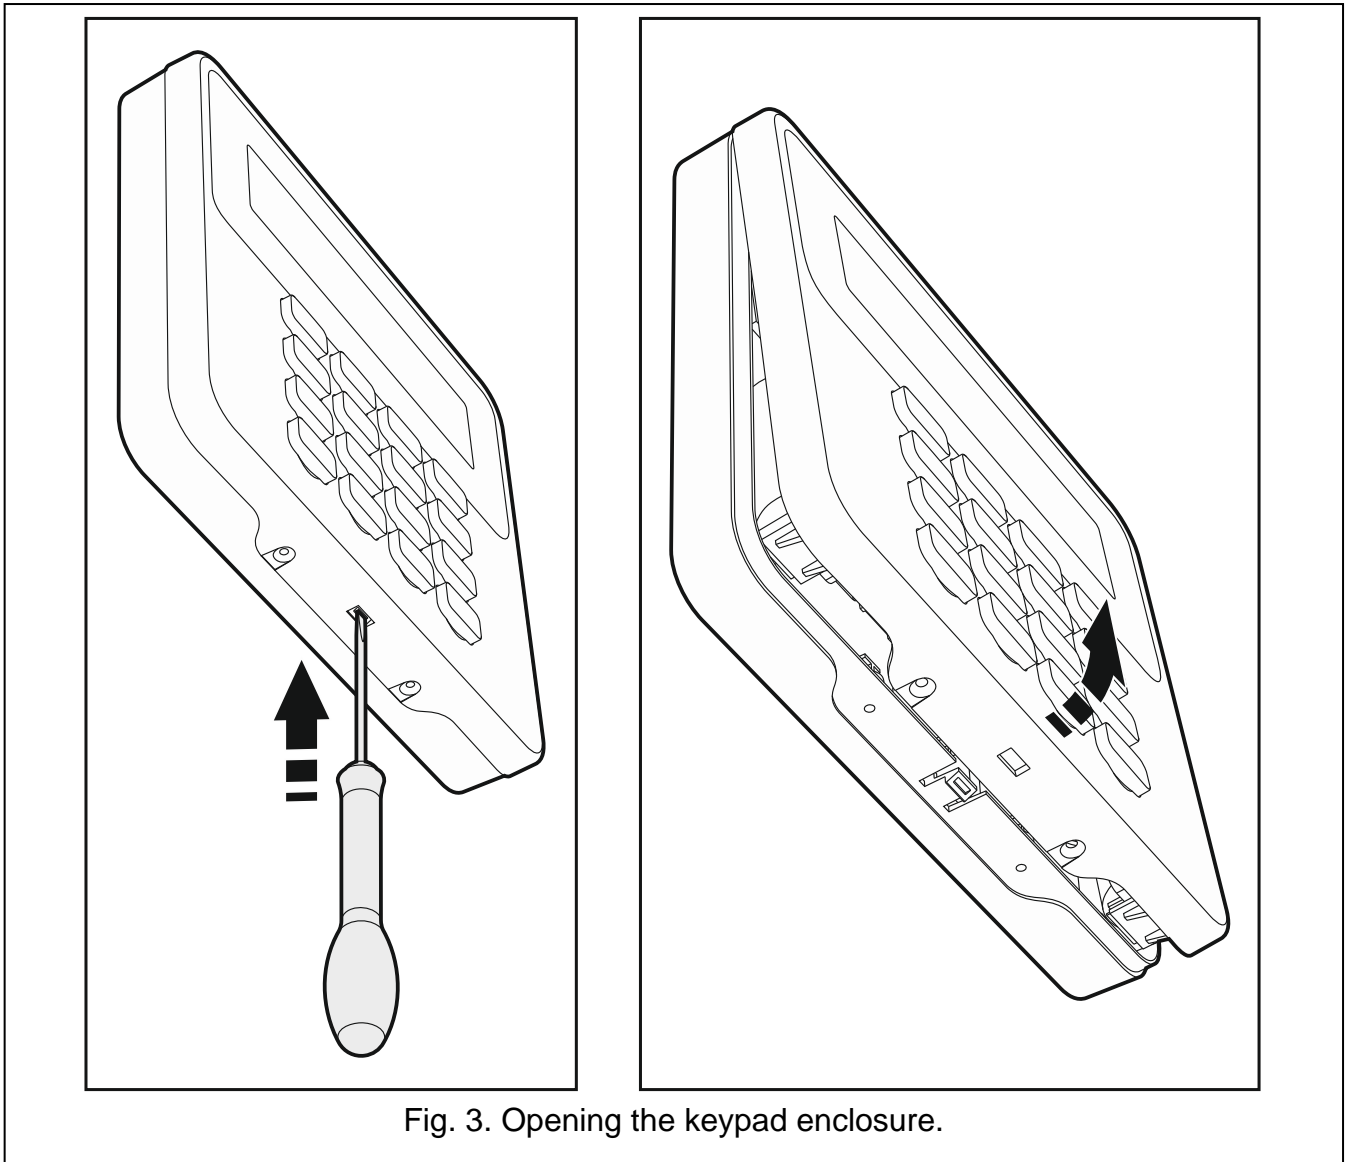

Fig. 3. Opening the keypad enclosure.
1. Open the keypad enclosure (Fig. 3).